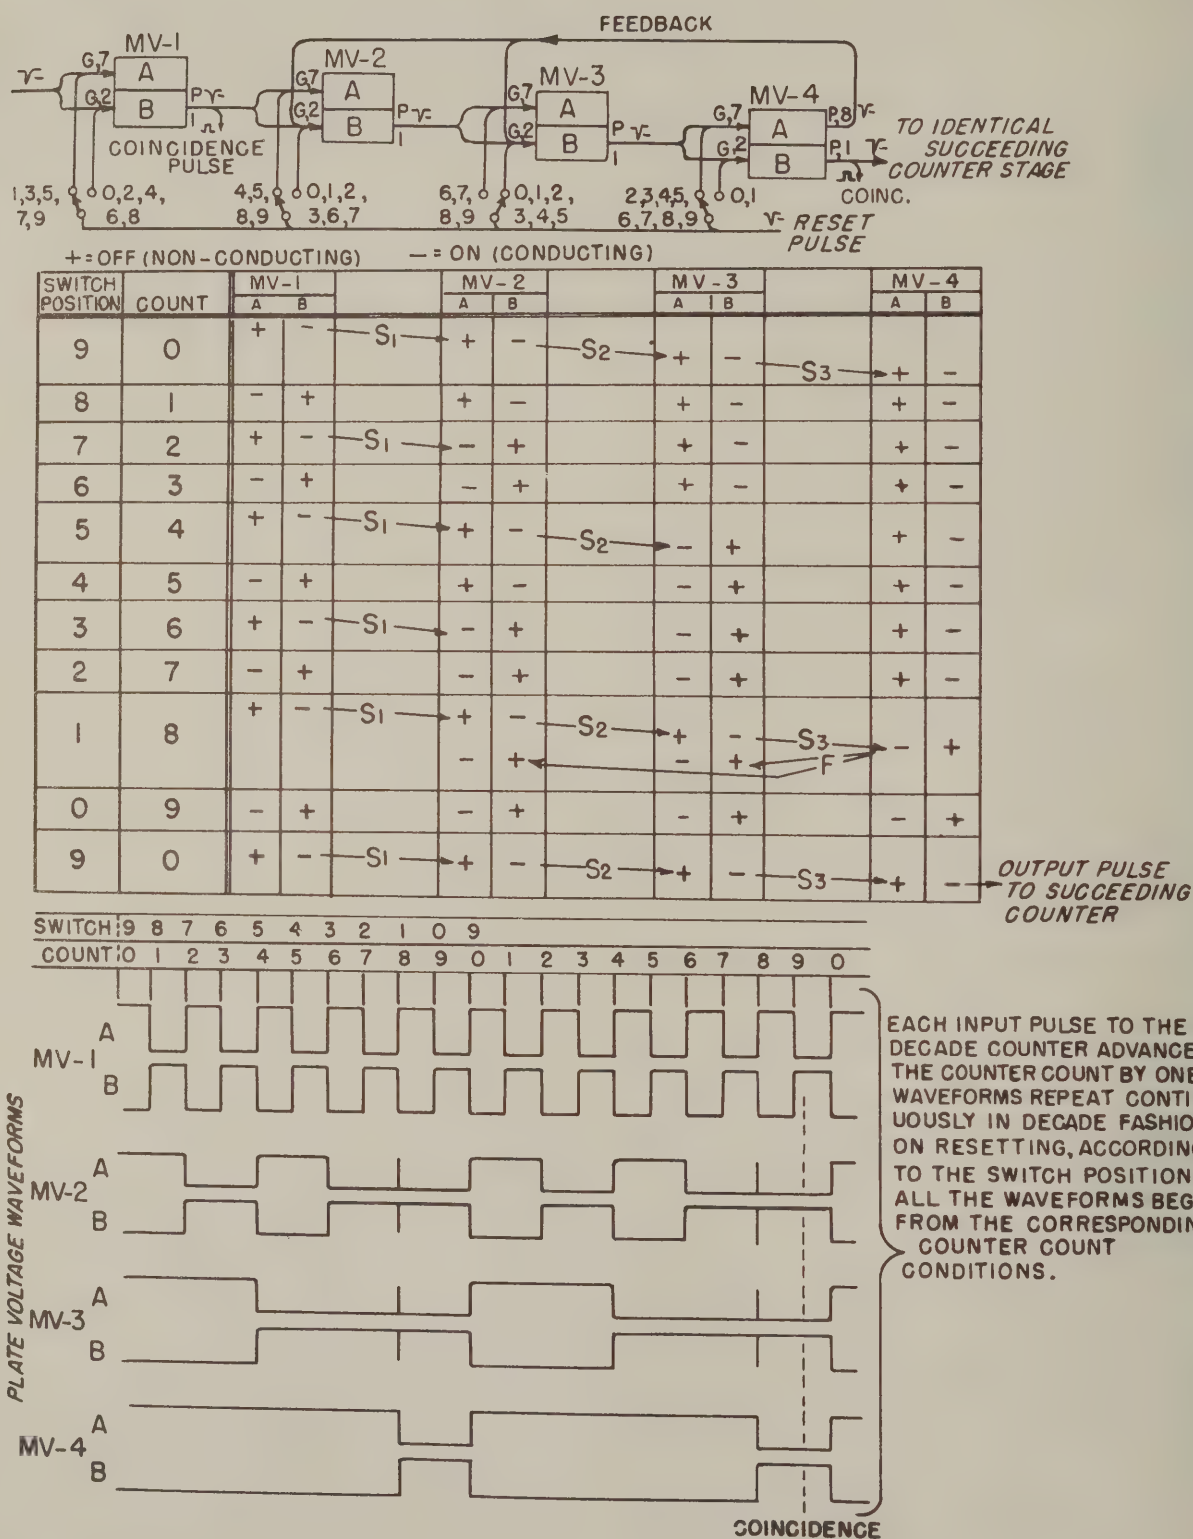

Figure 2-3. Decade Counter Operation (E401, E501, E601)
(2) DECADE COUNTERS.—The decade counter circuit used in the hundreds, thousands, and ten-thousands counters, is a four-stage counter employing feedback to the second and third stages from the fourth. Refer to figure 2-3 which illustrates the plate voltage waveforms and indicates the plate condition of each multivibrator stage. The plus (+) marks indicate the higher plate voltage when the tube is non-conducting, and the minus (−) marks indicate the lower plate voltage when the tube is conducting.